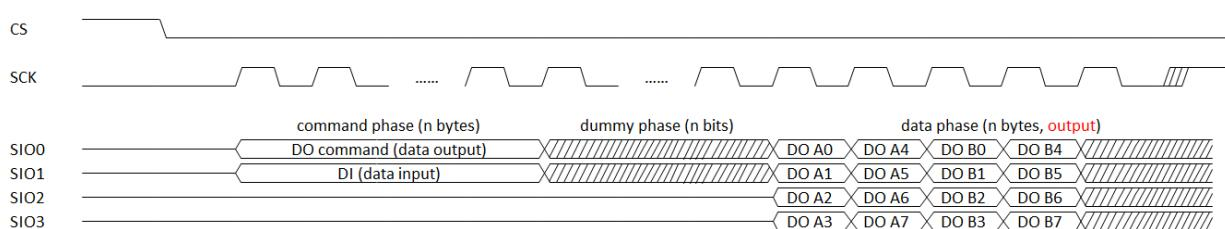
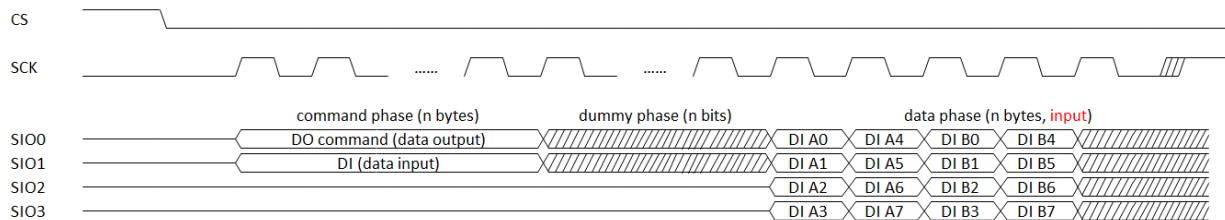

Figure 6.3-4. SPI master quad mode write data
Figure 6.3-5. SPI master quad mode read data
- SPI master quad mode. The quad mode SPI is a 6-pin protocol. Set the register **SPIM_TYPE** to 2 to enter this mode. Similar to dual mode, in quad mode, the SPI master controller only supports half duplex, and the data transmission direction is configured by register **SPIM_RW_MODE** (0: read data, 1: write data). The registers **SPIM_DUMMY_CNT**, **SPIM_COMMAND_CNT** can also be activated. The quad mode data transmission diagram is shown in Figure 6.3-4 and Figure 6.3-5.